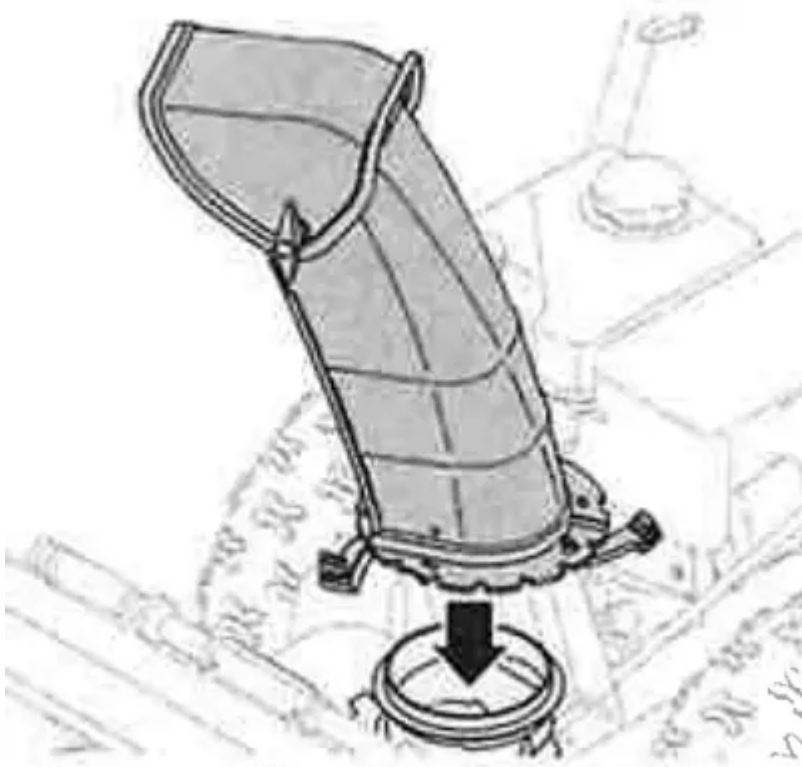

Figure 9
1. Position chute assembly over base (Figure 9)